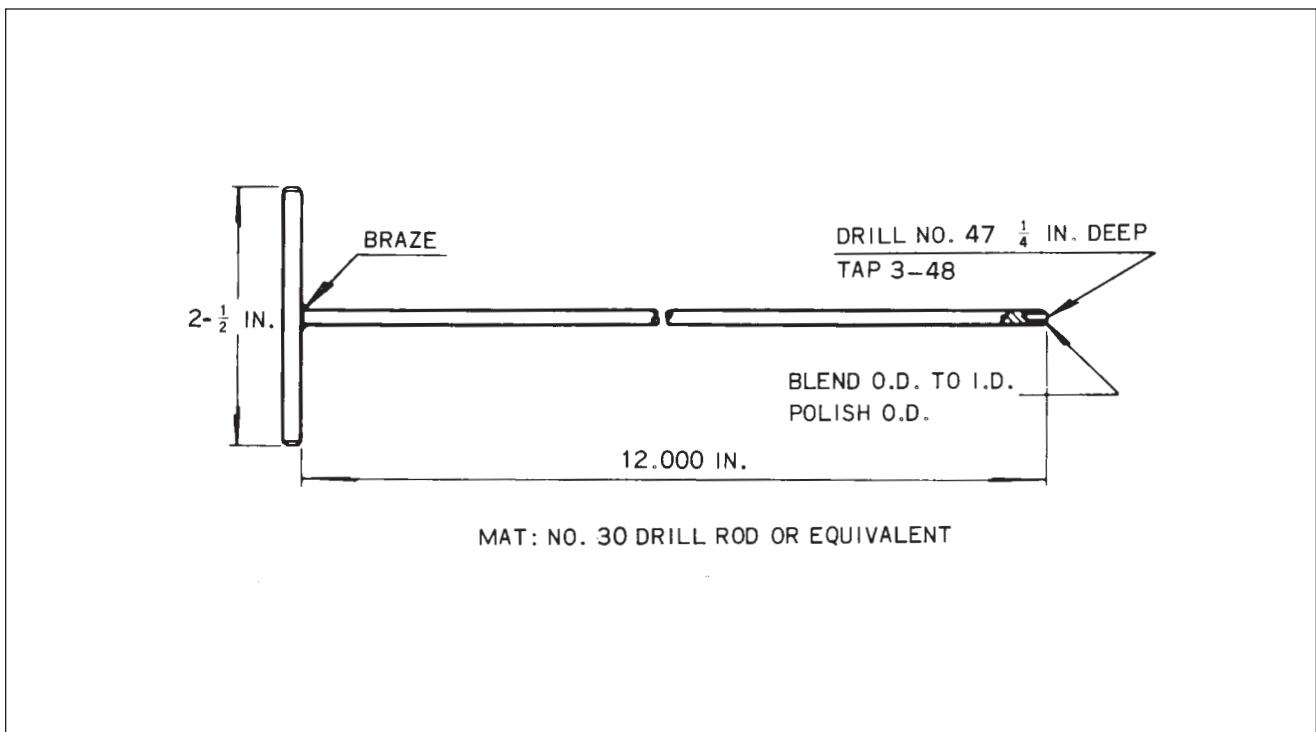

Figure 74-32. Assembly Tool
- (1) Fabricate a tool as shown in Figure 74-32 for installing the insulating sleeves over cable terminals.